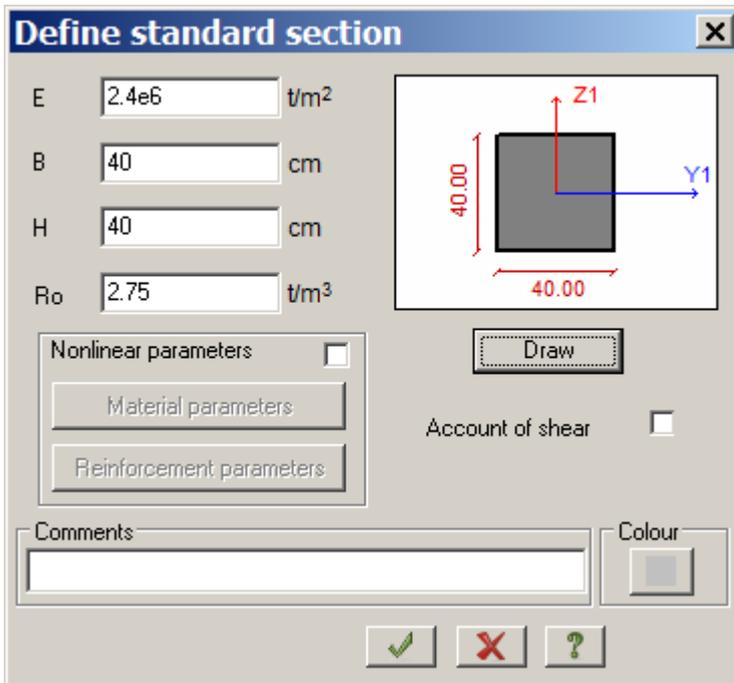

Figure 21.6 Define standard section dialog box
- ⇒ In the **Define standard section** dialog box specify the following parameters for **Rectangular bar** (see Fig.21.6):